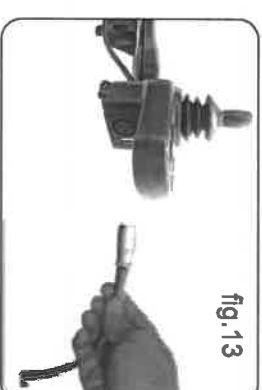

fig.13
5.2.4 Connect the 3-pin metal plug of the charger into the 3-hole charger socket on the controller(see fig.13).